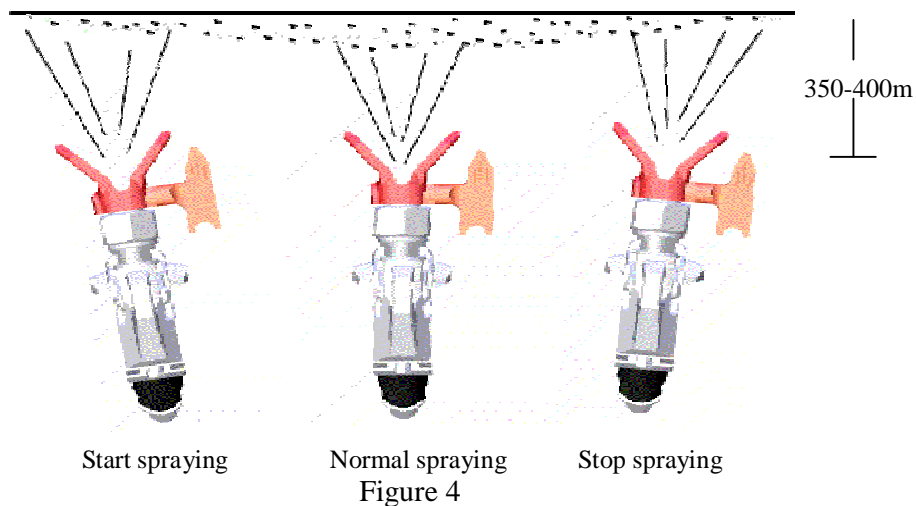

Figure 4
1. Keep about 350-400mm between the gun and the surface to be painted and also keep the gun perpendicular to the surface.(Figure 4)